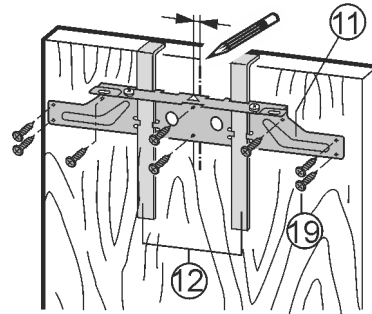

Fig. 30
- ▶ Align the crosspiece Fig. 30 (11) to the middle of the door.
- ▶ Left strip: Move the crosspiece Fig. 30 (11) 1/4 (6 mm) to the left.
- ▶ Right strip: Move the crosspiece Fig. 30 (11) 1/4 (6 mm) to the right.